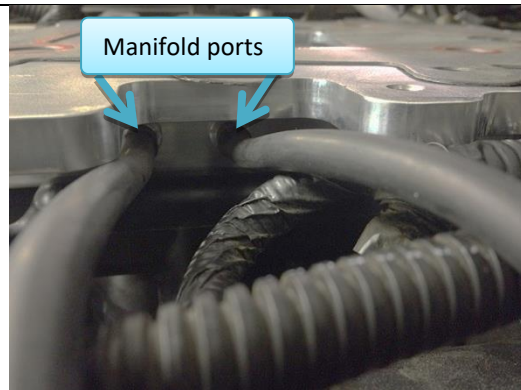
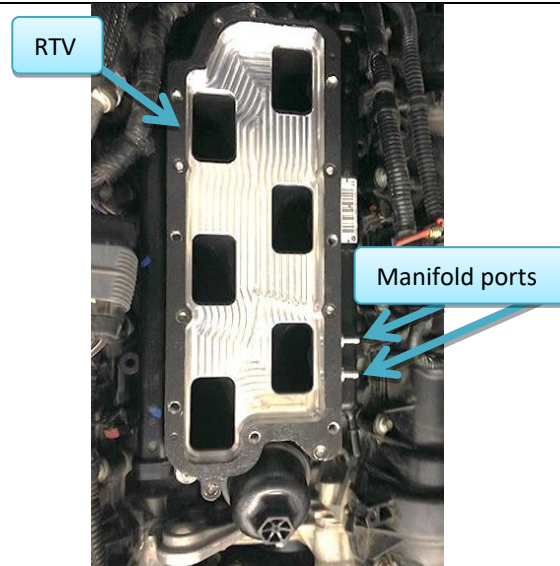

Figure 43: Provided hoses attached to intake manifold adapter on driver side.
Figure 44: Intake manifold adapter installed with RTV applied to lip.
29. Attach two provided hoses to ports on manifold adapter on driver side (Figure 43 and Figure 44)
- 29.2. Apply RTV to manifold adapter lip (Figure 44)